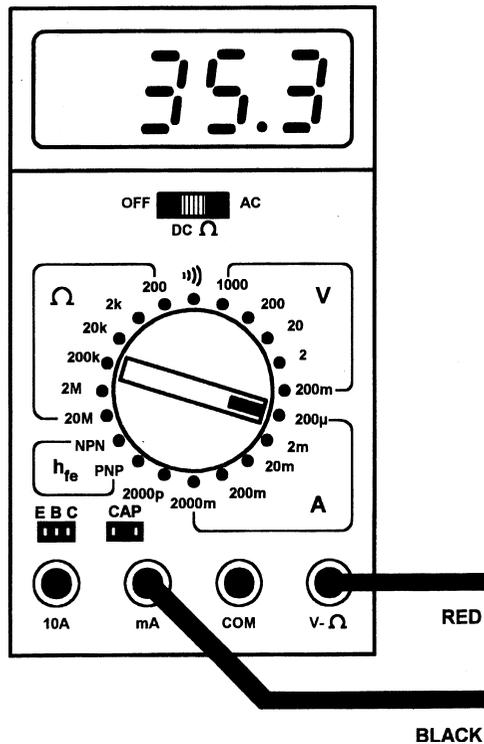

Figure 14.36 See Problem 14.8
- 14.8 Determine the reading on the multi-range meter shown in Fig. 14.36.